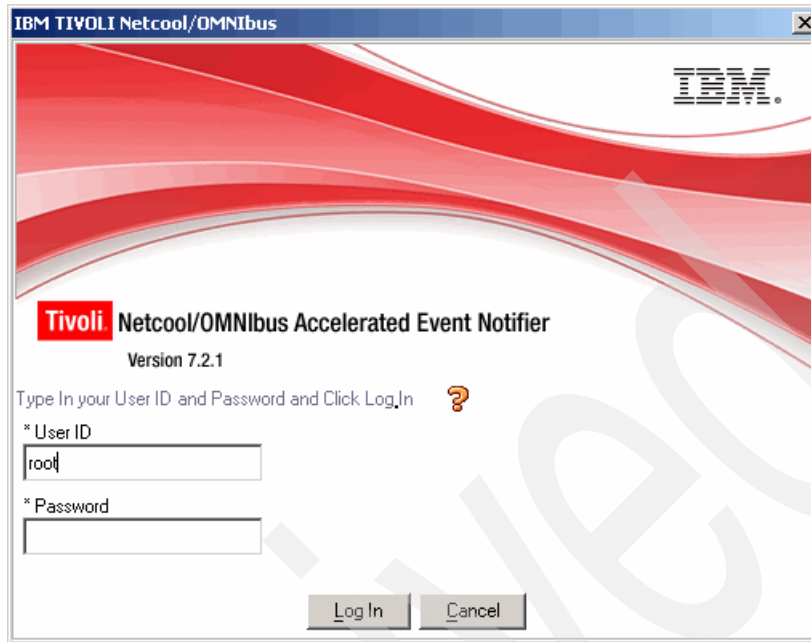

Figure 4-56 AEN login window
7. After the setting has been saved, you can start the client by right-clicking the icon and selecting **Sign In**. Provide the appropriate credential for the sign in window shown in Figure 4-56 on page 163 and click **Log In**.